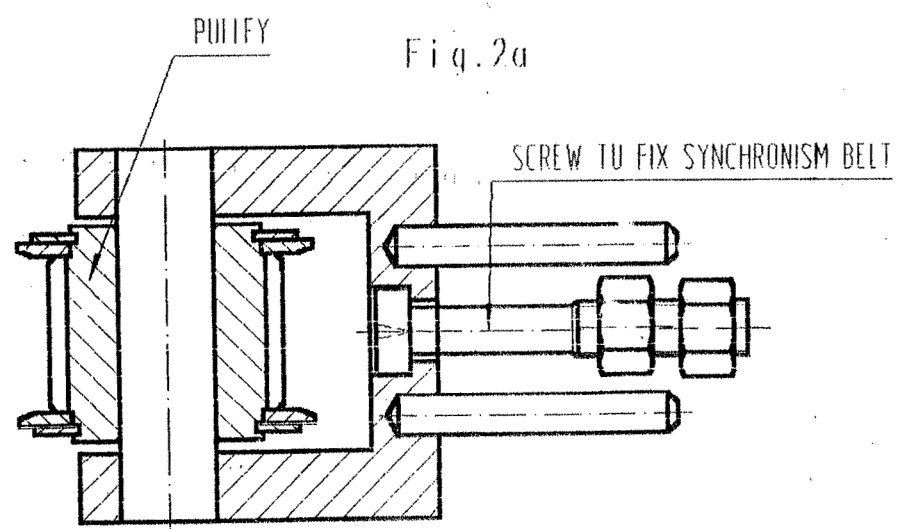

Fig. 2b
- 3.3.1 Loosening the nuts for pulley screw (See fig 2b) Release the pulley from saddle.